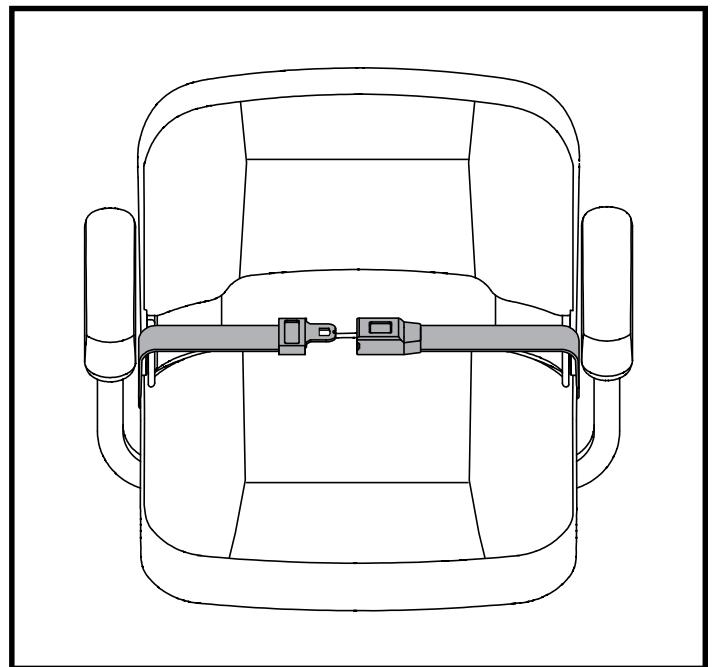

Figure 22. Positioning Belt - Metal Tab Style
1. Insert the metal tab on the right side of the belt into the plastic housing on the opposite strap until you hear a “click.” See figure 22.